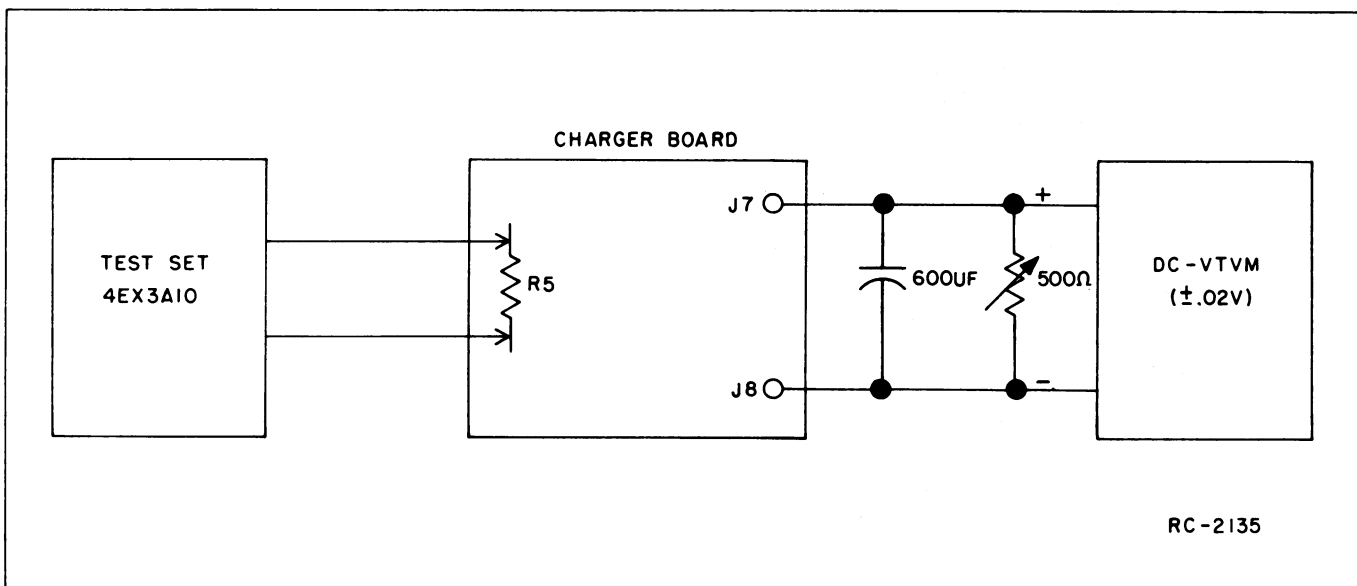

Figure 3 - Test Set-Up
2. Connect the equipment as shown in Figure 3.